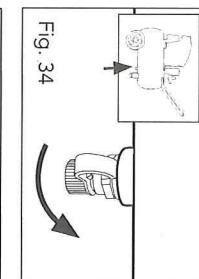

Fig. 34
The condensed water must be drained off each day by opening the drainage screw (1), at the bottom of the tank. The drainage screw can be opened by turning it in an anti-clockwise direction (Fig. 34). Be sure to re-tighten the drainage screw before the next use of the compressor.